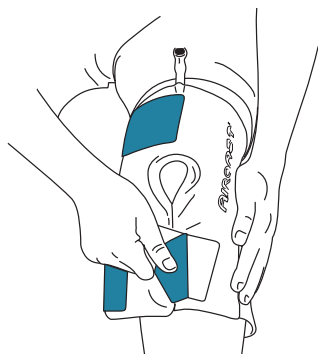

Figure 2
2. Always apply EMPTY Cryo/Cuff (Figure 2)